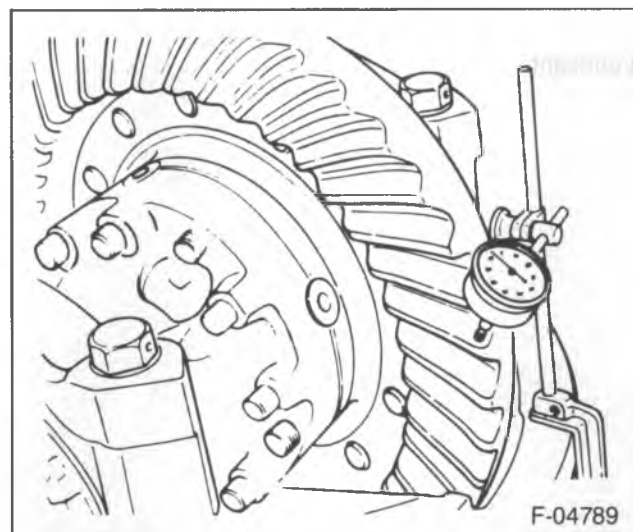

Figure 26—Checking Backlash
- Mount a dial indicator to the carrier (46). Place the stem of the indicator onto the toe end of a tooth (figure 26).